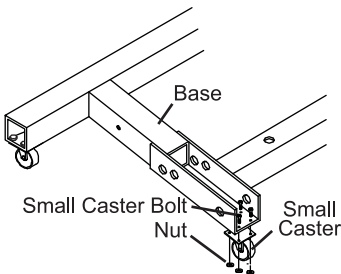

Figure 2
2. To attach two Small Casters (21) to the front section of the Base, align the four mounting holes in each Small Caster with the four mounting holes on the underside of each base end. Secure in place using four Small Caster Bolts (22) and Nuts (16). See Figure 2.